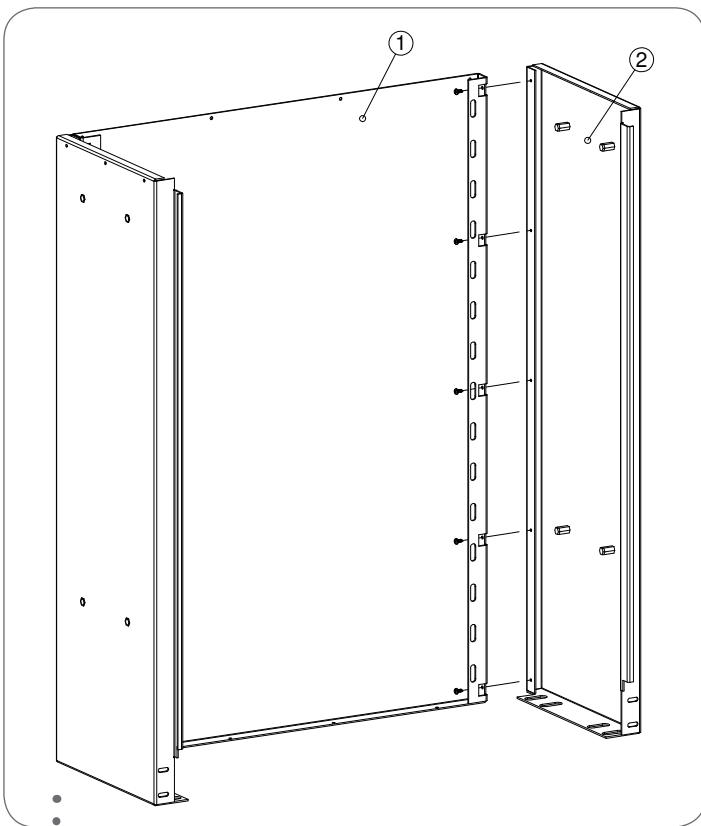

Fig. 2.1. Fastening of the side panels to the back panel. M5x10 screws should be used for the assembly.
Begin assembly by fastening the side panels (2) to the back panel(s) (1) with M5x10 assembly screws (see Figure 2.1).